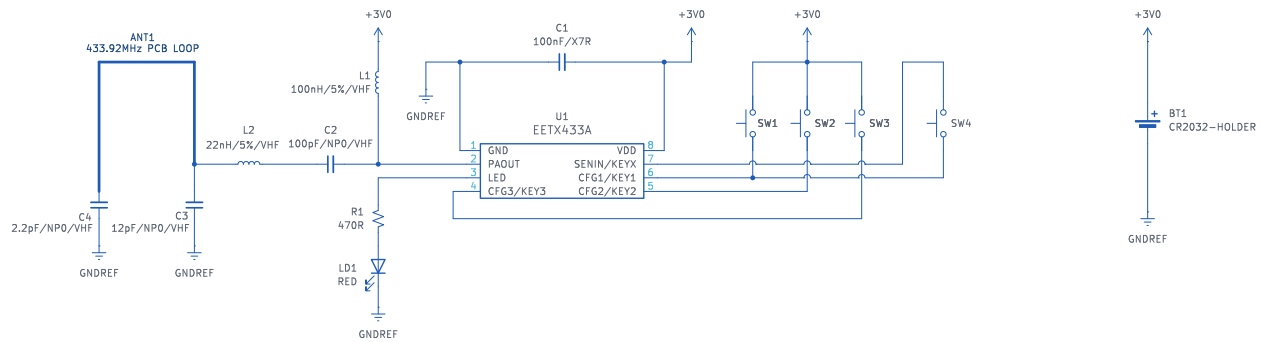

Figure 4: 433.92 MHz typical application — 4 buttons
- **Transmitter Mode (Mode 0)** — All three CFG pins are left open during power-up (no connection to VDD/ GND) — this selects Mode 0. The IC works as a keypad of up to 6 keys: up to 3 keys wired directly (one per CFG pin) and keys 4, 5 and 6 through control of the KEYx pin (see "Key Mapping" and the 4- and 6-key schematics, Figures 4 and 5). Each key transmits a unique 4-bit value.
Mode 0 (Transmitter): transmission triggers on a key press. Up to 3 keys connect a CFG pin (CFG1, CFG2 or CFG3) directly to VDD (logic 1); keys 4, 5 and 6 use control of the KEYx pin (SENIN/KEYx) — see "Key Mapping" and Figures 4 and 5. Transmission continues while the key is held, with a minimum duration of 800 ms (16 packets) and a maximum of 5000 ms (100 packets). If the user releases the key before 800 ms, the IC still completes the minimum duration.
In Mode 0 (Transmitter), CFG1, CFG2 and CFG3 must be left floating (no connection to VDD or GND) at power-up — this is what selects Mode 0. Only 3 keys can be wired directly, one per CFG pin, tying the pin to VDD when pressed: KEY1 → CFG1/KEY1 (pin 6), KEY2 → CFG2/KEY2 (pin 5) and KEY3 → CFG3/KEY3 (pin 4). Keys 4, 5 and 6 are not direct: they rely on control of the KEYx pin (SENIN/KEYx), per the 4-, 5- and 6-key application schematics (see Figures 4 and 5). Each key transmits a fixed 4-bit value per the table below: